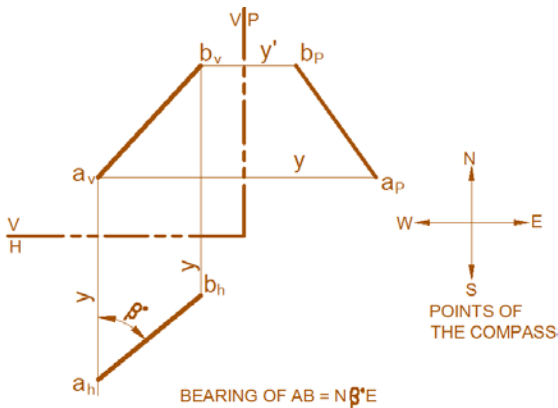

Fig. 2.10 Bearing of a line
The *bearing* of a line is the angle the horizontal projection of a line makes with respect to the points of the compass. It is given in degrees (0 to 90°) measured from either north (N) or south (S) direction. The bearing reading indicates the quadrant in which the line is located on the horizontal projection. The north line is usually assumed to be vertical unless a different direction is specified. For line AB shown in Fig.2.10, the bearing is given to be $N\beta^\circ E$.